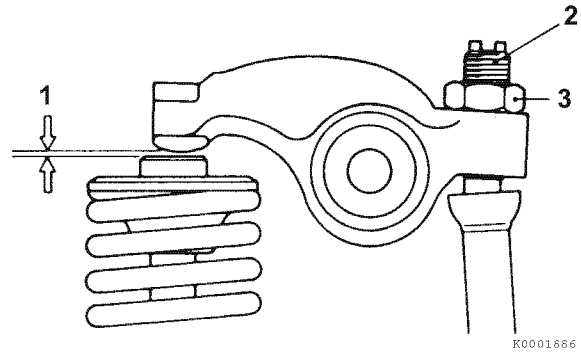

Figure 6-33
3. Check the valve clearance (1, **Figure 6-33**) using a feeler gauge. If adjustment is required, proceed to the next step. *See Valve clearance on page 6-4 for the specification.*
4. Loosen the adjusting screw locknut (3, **Figure 6-33**). Turn the valve adjustment screw (2, **Figure 6-33**) to adjust the valve clearance so there is a slight "drag" on the feeler gauge when sliding it between the rocker arm and the valve cap. Hold the adjusting screw while tightening the valve adjusting screw locknut. Recheck the clearance.